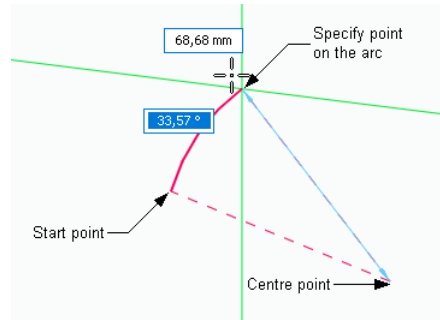

Figure 2-23 An arc drawn by specifying center point
- Invoke the **Arc by Center Point** tool; you will be prompted to specify the center point of the arc. Specify the center point of the arc; you will be prompted to specify its start point and then the endpoint. Note that when you specify the start point of the arc, the radius will be automatically defined. And on specifying the endpoint of the arc, the length of the arc will be defined. Figure 2-23 shows an arc drawn by using this method.